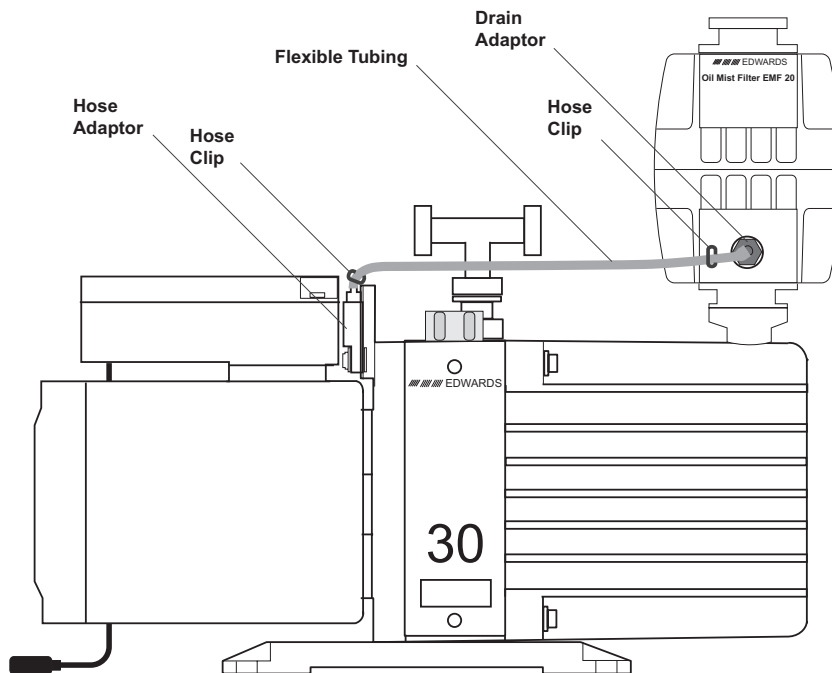

Figure 1-8. Connecting the flexible oil return tubing
- c. Attach one end of the tubing to the drain adaptor on the oil mist filter and the other end to the hose adaptor. Use the two hose clips to secure the ends of the tubing (see Figure 1-8).